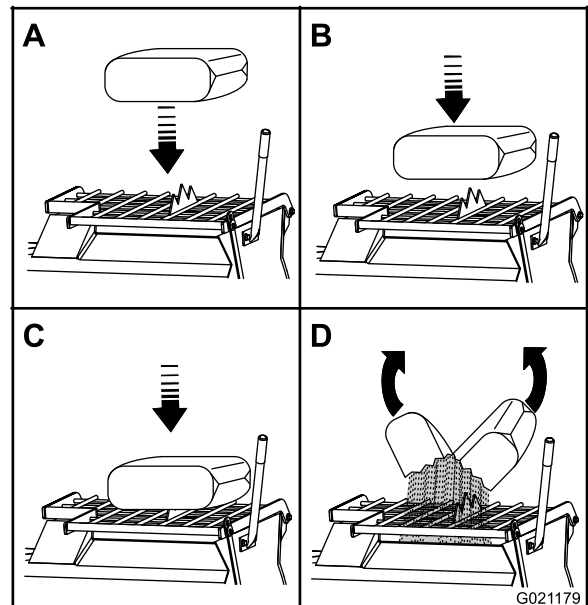

Figure 38
**Note:** You can open bags of cement, plaster, and binding materials by lowering the bag onto the bag splitter (Figure 38).